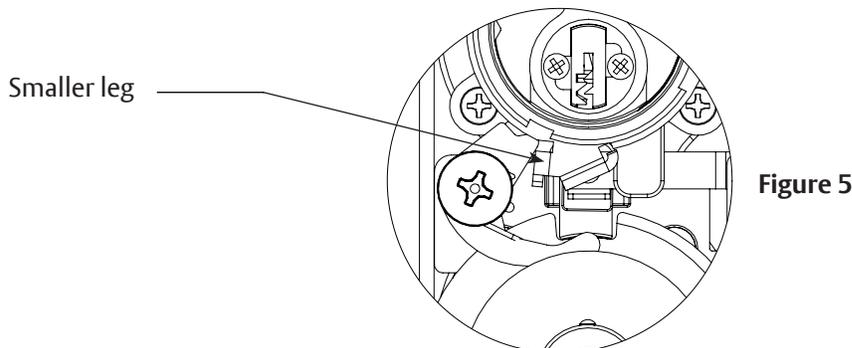

Figure 5
- b. Insert key override ring into cylinder with "smaller leg" between cam as shown in Figure 5.